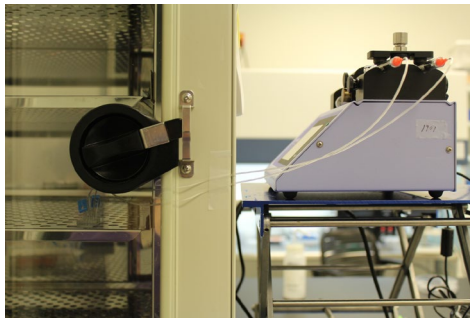

Figure 1. A syringe pump on a lab jack (right) is connected to a microfluidics device in a tissue culture incubator (left).
1. Place the syringe pump on the lab jack (Figure 1).
Figure 1. A top view of the Pneumatic Primer, containing an inlet connector for the device (A), a metal male connector to the gas line (B), and nylon tubing that connects to the gas tank (C).